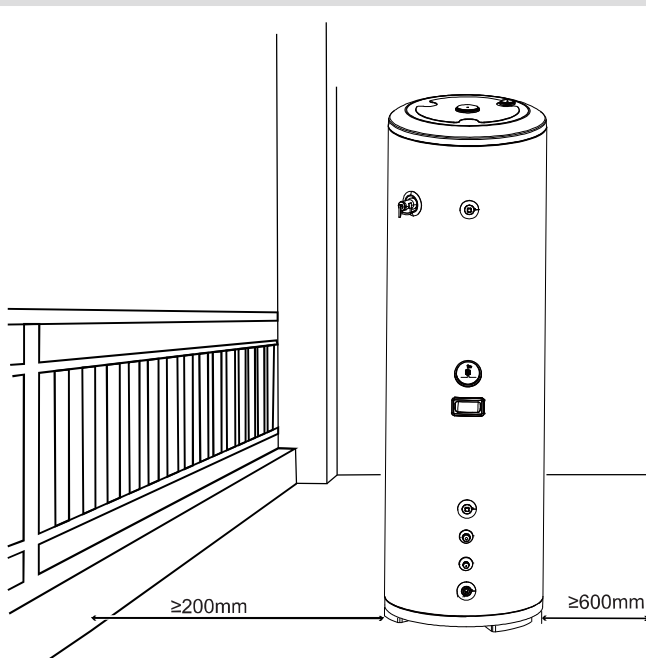
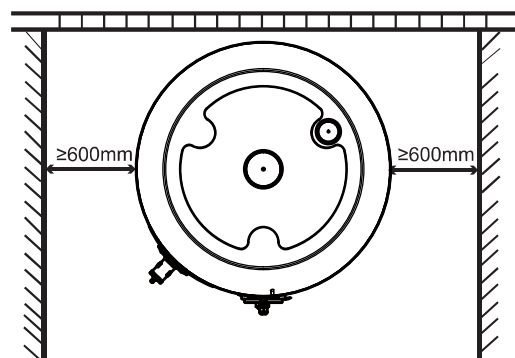

Fig 3-3
Fig 3-4
3.2.2 Water tank installation and maintenance space, see Fig 3-3 and Fig 3-4 . (Unit: mm)